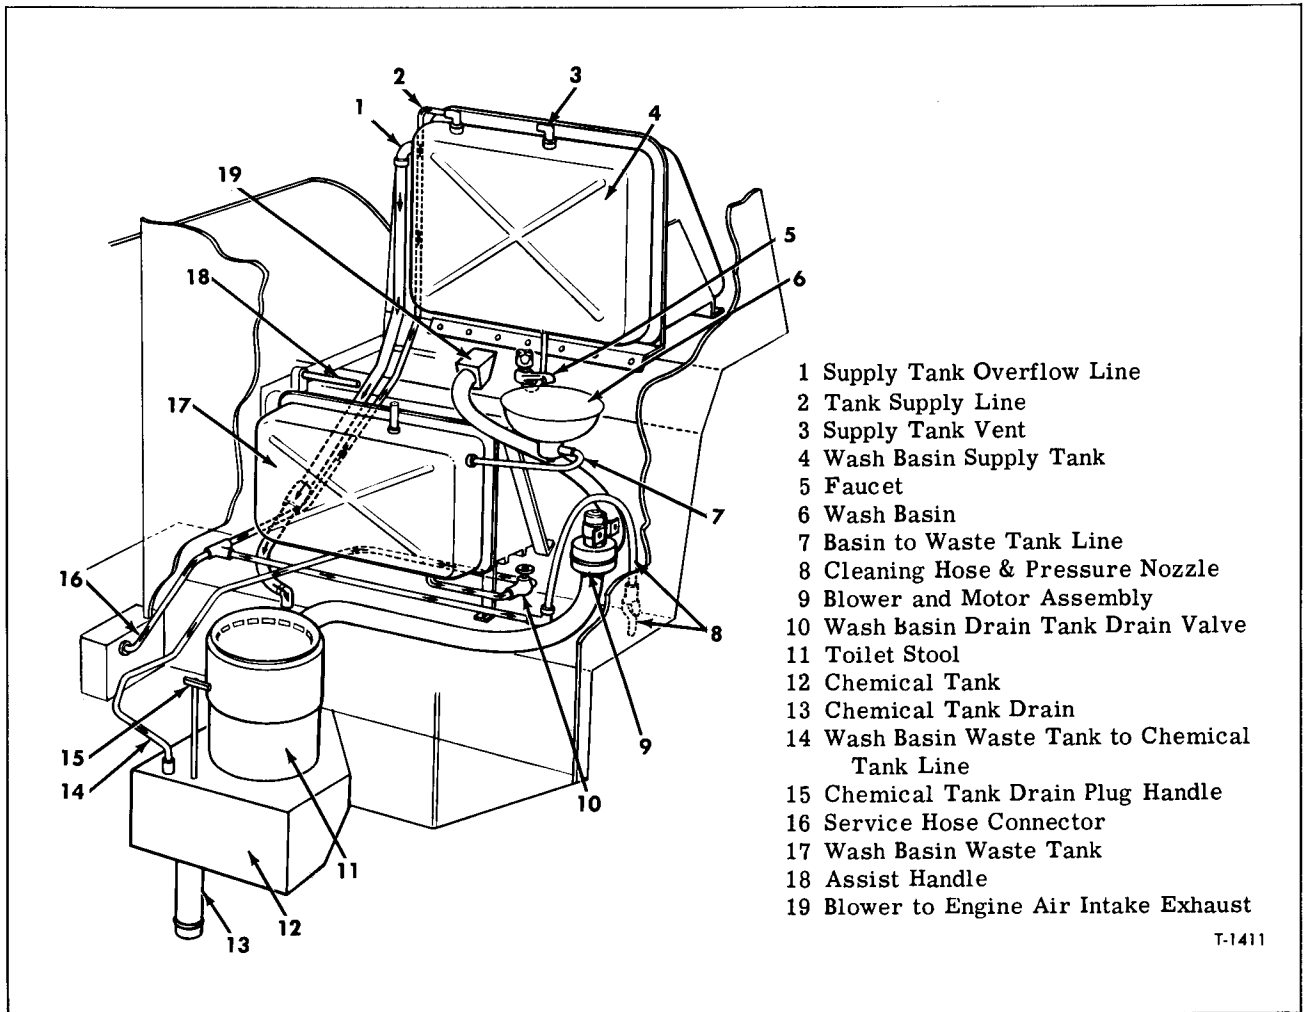

Figure 2—Schematic of Lavatory Water Lines and Units
tray, and on some coaches a sanitary napkin dispenser. Figure 2 illustrates schematic layout of lavatory plumbing.
2. Fill supply tank with CLEAN, fresh water until water starts to flow out overflow line (fig. 2).